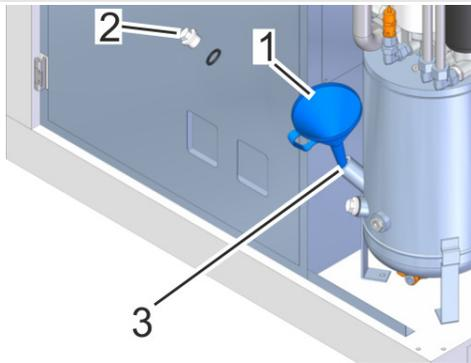

Fig. 28: Filler nozzle
5. Use a funnel (Fig. 28/1) to top off the oil to the filling edge on the filler nozzle (Fig. 28/3).
7. Insert the screw plug (Fig. 28/2) and tighten.